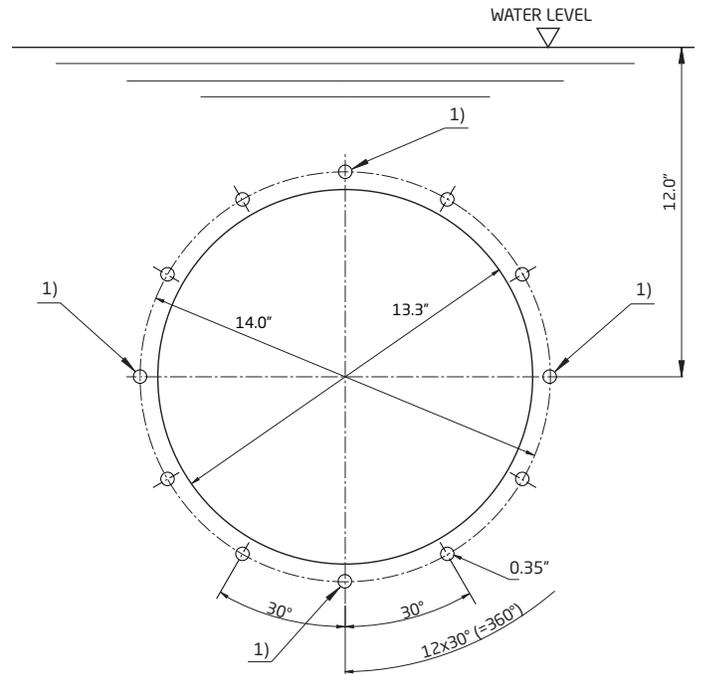
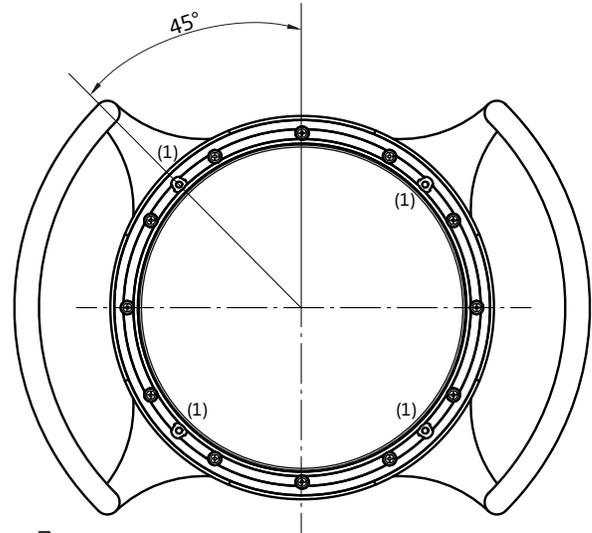
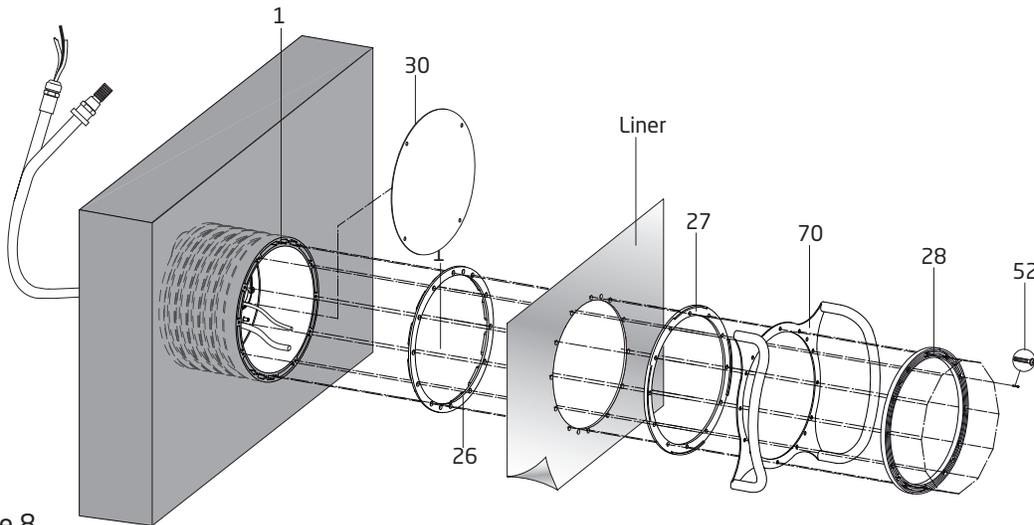

Figure 5
Figure 7
Figure 8
- Create formwork for the jet housing using Figures 5 & 6.
- Drill the four M8 holes marked (1) in Figure 5 in the formwork for the inner pool wall. Cut a 14.5" hole in the formwork for the outer pool wall. **CAUTION:** The center of the jet housing **MUST BE** mounted 12" **BELOW** the water line as shown in Figures 5 & 6
- Place the gunite cover (part# 30) on the front of the jet housing. The four (4) holes in the gunite cover should line up with the holes marked (1) in Figure 5. Tape the edge of the gunite around the entire jet housing to keep concrete out of threaded inserts and out of the jet housing.
Align the stainless steel handles (part #70) and clamping ring (part #28) as shown in Figure 7. Use the twelve (12) M8 x 30 clamping ring screws (part #52) to attach the clamping ring and handles to the jet housing.
Use the provided mounting template (*small scale version of template shown in Figure 5*) to mark and drill the holes through the liner (twelve (12) M8 clamping ring screw holes and 13.3" center hole). Insert the gasket with knobs in the front of the jet housing (part #26). Install the liner with the holes aligned to the jet housing. Align the clamping ring (part #28) and stainless steel handles (part #70) as shown in Figure 7. Place the clamping ring gasket (part #27) behind the stainless steel handles and install using the twelve (12) M8 x 30 clamping ring screws (part #52). (See Figure 8)
5. Place gunite cover on the front of the jet housing. The four holes should be lined up with the holes marked (1) in Figure 5. Tape the edge of the gunite cover around the entire jet housing to keep gunite out of threaded inserts and out of the jet housing. Next place plywood on the front of the jet housing and secure to four (4) M8 x 30 screws (part #52). The discharge connection should be located directly **ABOVE** the suction connection.
6. Now place this assembly into position in the pool wall and align the water line marks. With a level on the two (2) horizontal studs, level the assembly and mark the eight (8) holes for the 1/4" lag shield anchors. Remove assembly and drill holes for lag anchors. Install lag shield anchors. Reposition the assembly and secure it to the lag shield anchors with 1/4" lag screws. It is best to check with a level before tightening the lags down. Back fill and form the outside of pool wall.
Align the stainless steel handles (part #70) and the clamping ring (part #28) as shown in Figure 7. Using the twelve (12) M8 x 30 clamping ring screws (part #52), attach the clamping ring and handles to the jet housing.
Use the template in Figure 5 to mark and drill the holes through the liner (twelve (12) M8 holes and center 14" hole). Insert the gasket with knobs (part #26) in the front of the jet housing. Install the liner with the holes aligned with the jet housing. Align the clamping ring (part #28) and stainless steel handles (part #70) as shown in Figure 7. Place the clamping ring gasket (part #27) behind the stainless steel handles and install using the twelve (12) M8 x 30 clamping ring screws. (*See Figure 8*)
7. Align the clamping ring (part #28) over the stainless steel handles (part #70) as shown in Figure 7.
8. Install the twelve (12) M8 x 30 clamping ring screws (part #52).